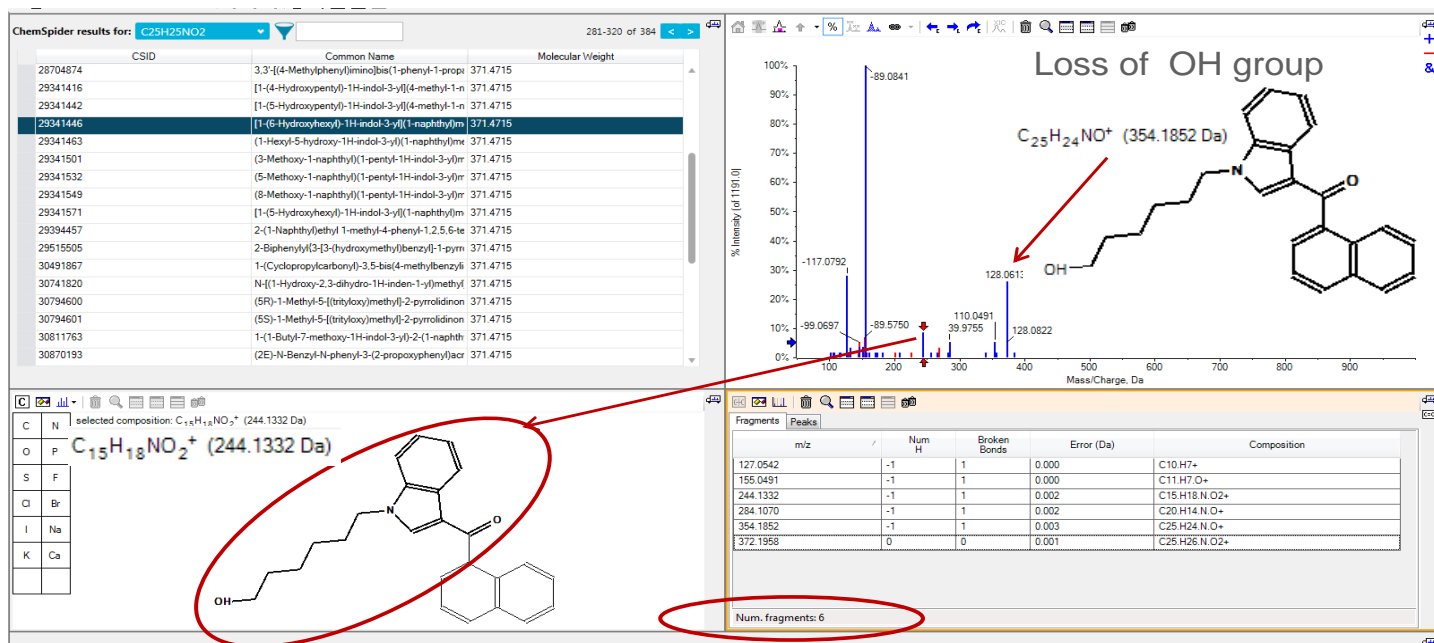

Figure 11. Closest Structural Match; 6 of 6 peaks match with 100% explainable MS/MS fragment ions for the JWH-019 metabolite
- 6 of 6 peaks matched with 100% explainable MS/MS fragment ions for the JWH-019 5-hydroxyhexyl metabolite novel psychoactive substance (Figure 11).